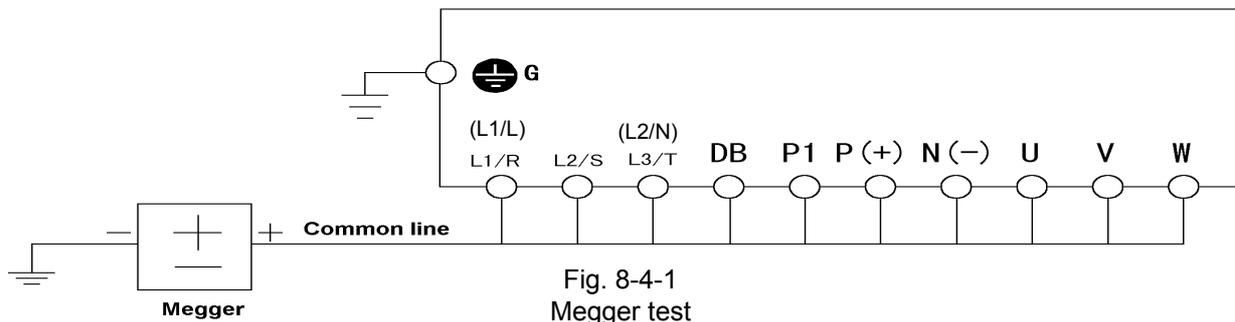

Fig. 8-4-1
- 3) Connect the main circuit terminals with a common cable as shown in Fig. 8-4-1.